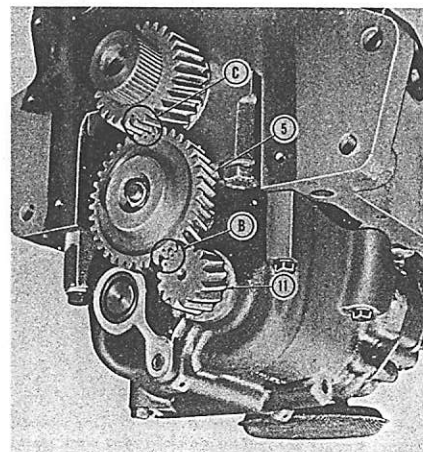
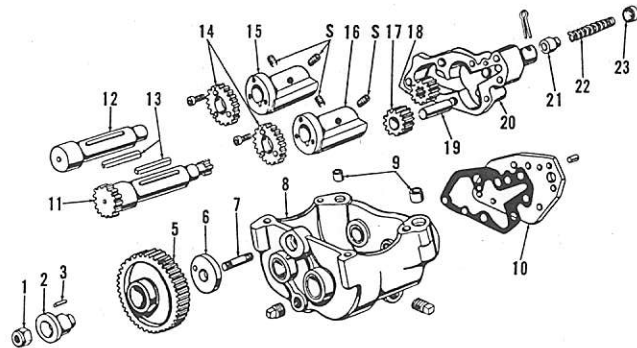

Fig. 86—Installed view of engine balancer with timing marks aligned. Refer to paragraph 88 for installation procedure.
Fig. 88—Exploded view of Lanchester type engine balancer, engine oil pump and associated parts used on four cylinder models.
The balancer unit is driven by the crankshaft timing gear through an idler gear attached to balancer frame. The engine oil pump is mounted at rear of balancer frame and driven by the balancer shaft. Refer to Figs. 86 through 88.
mounting cap screws. Engine oil is pressure fed through balancer frame and cylinder block. Balancer frame bearings are also pressure fed. Refer to Fig. 86 for an installed view of balancer unit.
Turn crankshaft until No. 1 and No. 4 pistons are at the exact bottom of their stroke. Remove balancer idler gear (5—Fig. 88) if necessary, and align the single punch-marked tooth of idler gear between the two marked teeth on weight drive shaft as shown at (B—Fig. 86). Install balancer frame with balance weights hanging normally. If carefully installed, timing will be correct. If engine is mounted in stand or tractor front end is removed, timing marks can be observed by removing timing gear cover.
89. OVERHAUL. Refer to Fig. 88 for an exploded view of balancer frame and associated parts. To disassemble the removed balancer unit, unbolt and remove oil pump housing
Recommended diametral clearance for idler gear (5—Fig. 88) on hub (2) is 0.001-0.0032. End play should be 0.008-0.014. Bushing for idler gear is not available as a service item.
95. The gear type oil pump is mounted on engine balancer frame and driven by balancer shaft as shown in Fig. 88. Oil pump can be removed after removing oil pan. The thickness